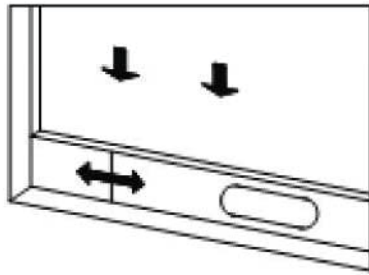
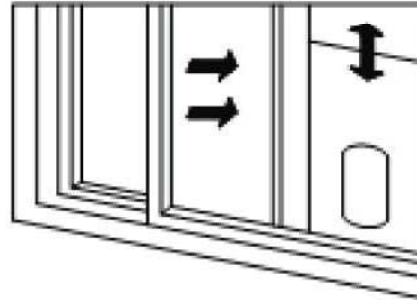

Figure 2
Figure 3
1) Half open the window and mount the window sealing plate assembly to the window (as shown in Fig.2 and Fig.3). Components can be placed in horizontal and vertical direction.